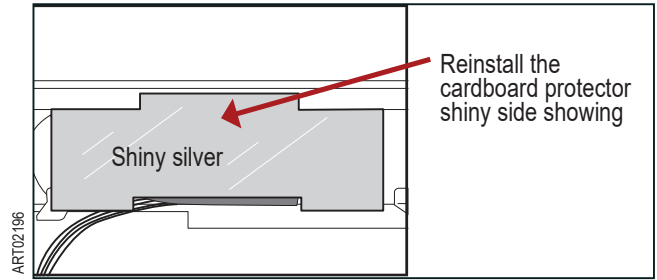

Fig. 14 Reinstall the cardboard protector
- Install the cardboard protector. Refer to Fig. 14.